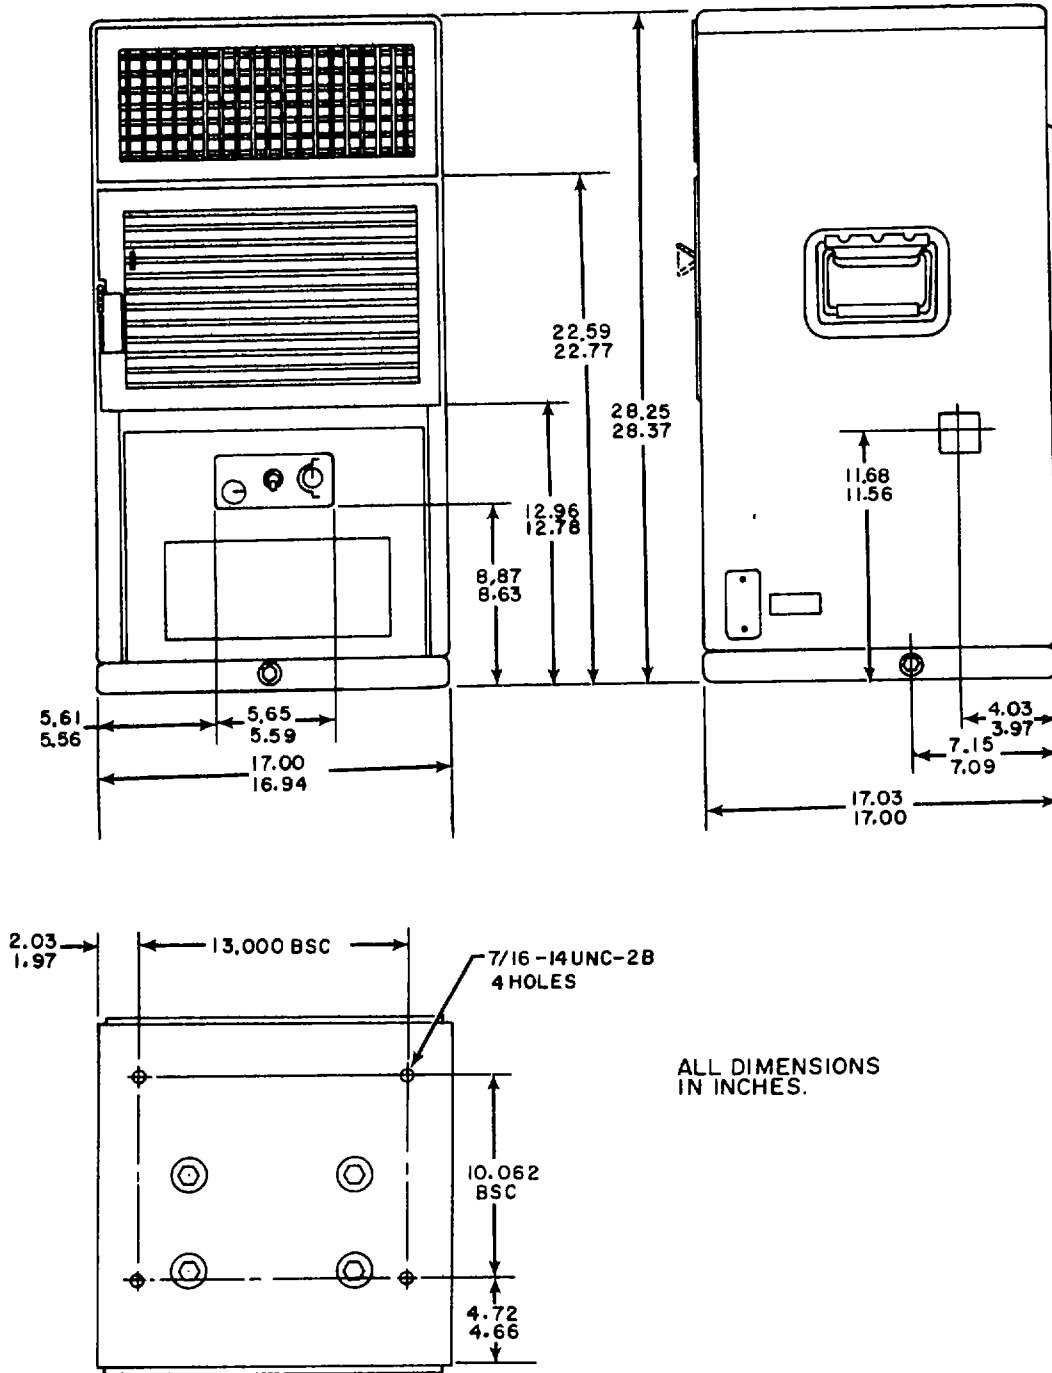

Figure 4-2. Installation Dimensions
- (1) A relatively level surface capable of bearing the weight of the air conditioner on which to set the base. To insure proper condensate drainage, the surface should be level with 5° from front to back and side to side. See figure 4-2 for installation dimensions.
- (2) An unobstructed flow of air from outside the conditioned area to inlet and outlet of the condenser.
- (3) An unobstructed flow of air from inside the conditioned area to the conditioned air intake and discharge.
- (4) An unobstructed flow of air from outside the conditioned area to the fresh air damper intake and/ or NBC filter intake, if installed.
- (5) Access to the front and back of the cabinet for routine operation and servicing and for necessary maintenance actions.
- (6) Access to the top of the cabinet for removal of the top panel and sufficient headroom to allow maintenance actions and internal component removal and installation through the top panel opening.
- (7) A source of 115 volt, single phase, 50/60 hertz input power rated at 18. 5 amps. The power source outlet should be located as near as possible to the installed location of the air conditioner. The power source wiring must include a disconnect switch. However, provisions should be made to insure that power is not disconnected during normal operation and that the disconnect is not used to turn off the air conditioner for normal shut-down.
- (8) An earth ground capable of handling 18. 5 amps.
- (9) Check that no source of dangerous or objectionable fumes are located near the fresh air intake.
- (10) If possible make use of terrain features such as trees and buildings to provide a shaded location. This will minimize the cooling load on the air conditioner.
- (11) If possible avoid locations where the condenser and fresh air intakes will be laden with dust, dirt, soot, smoke, or other debris.
b. Through the wall installation. Prepare an opening in the wall large enough to slide the air conditioner through. (See fig. 4-2.) Consideration should be given to service of internal components. All openings around air conditioner must be sealed air tight.